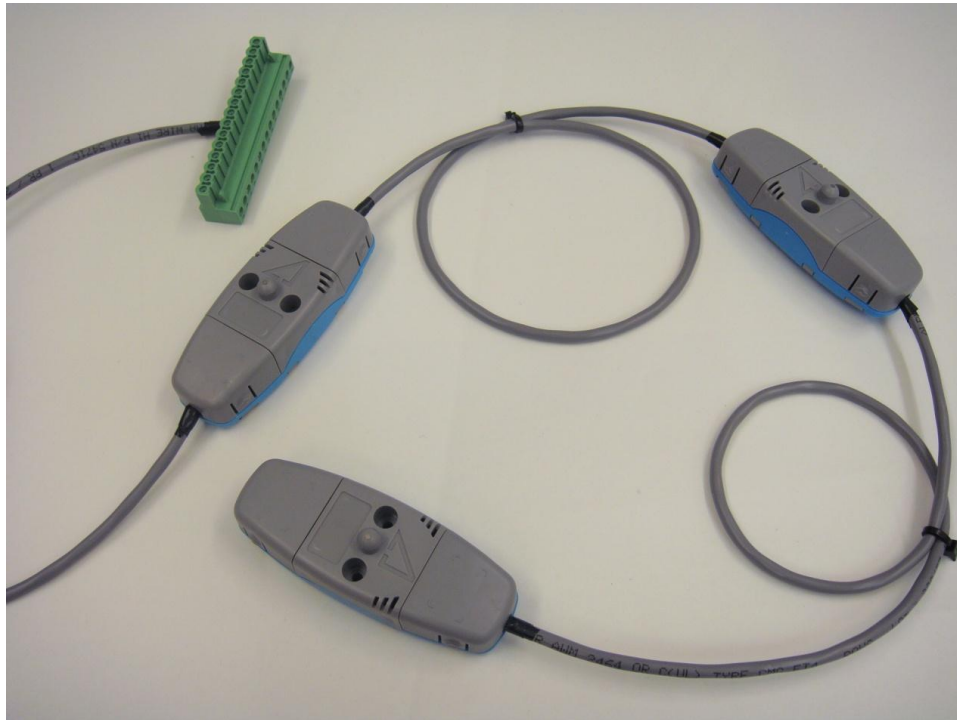

Figure 4.14
9) A maximum amount of 3 arc sensors can be daisy-chained to the same sensor input on the AQ101 unit. (See Figure 4.14)